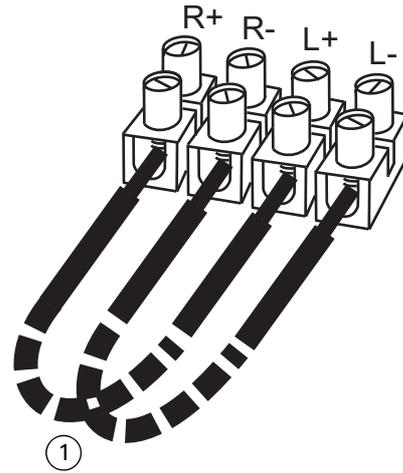

Fig. 13: Loop Wiring for Testing
At this stage, do not wire in any isolator bases, or any other modules, or fit the detectors. This is because these items will be damaged by the high voltage insulation checks. Use strip connectors (see Fig 13 on page 23) for any temporary connections, to preserve continuity.
- 3 Connect the loop wiring tails to a strip type connector block, with screw terminals, as shown in Fig. 13. Place this loosely in the housing.
- 4 Remove the temporary connector block connections that you made to the connector block as shown in Fig. 13.